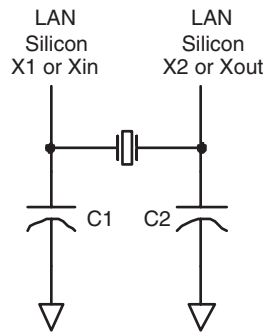

Figure 4. Crystal Circuit
Figure 4 illustrates a simplified schematic of the 82562EZ(EX) and the 82547GI(EI) controller's crystal circuit. The crystal and the capacitors form a feedback element for the internal inverting amplifier. This combination is called parallel-resonant, because it has positive reactance at the selected frequency. In other words, the crystal behaves like an inductor in a parallel LC circuit.